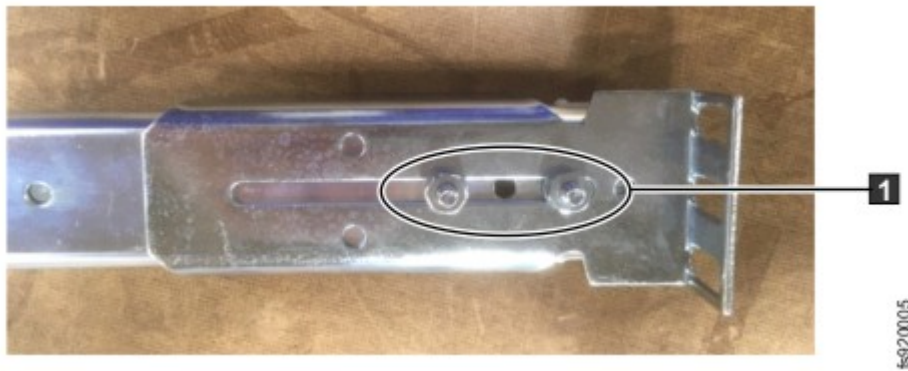

Figure 261. Attaching a bracket to an outer rail member
- d) Tighten the nuts and bolts on the mounting bracket of the outer rails, as shown in Figure 261 on page 320.